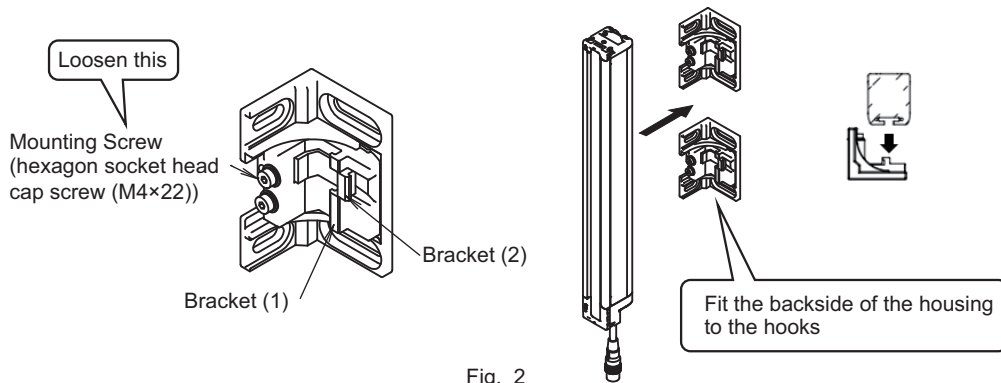

Fig. 2
2. Fully loosen the Mounting Screws (hexagon socket head cap screw (M4×22)). Fit the backside of the F3SG-R housing to the Brackets (1) and (2) so that the groove of the backside of the housing receives the hooks of the Brackets (1) and (2). (Fig. 2)